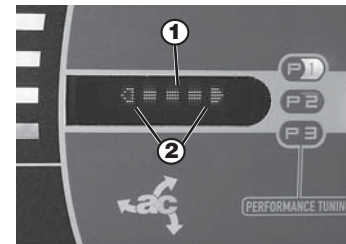

Fig. 8 Display screen
When the truck is turned on, the display is in message mode and indicates wheel position (Fig. 8, ①). When the travel switch is applied, one of the two directional arrows (Fig. 8, ②) is filled. In the example shown, the drive wheel is aligned straight ahead and travel in the forks direction is selected.
When the truck is turned on the display is in message mode. Display RT 4000. Depending on the pre-setting, one of the following readings can be chosen as the display(see Fig 8):